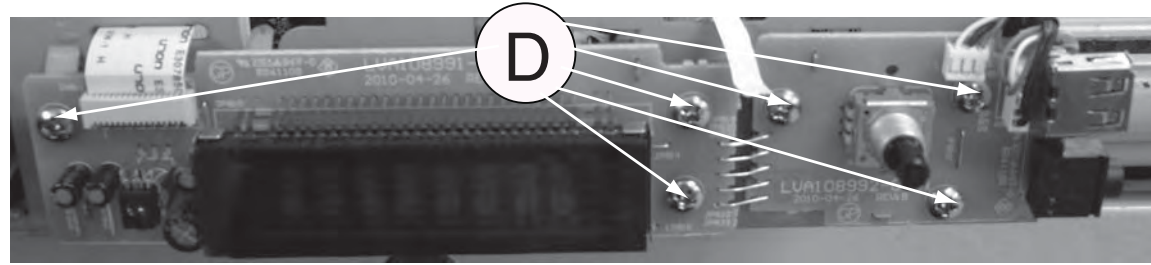

Figure 10
- 1) Loosen 6 screws "D" on the top of VFD+VOL+USB+MP3 Board as shown in figure 10.